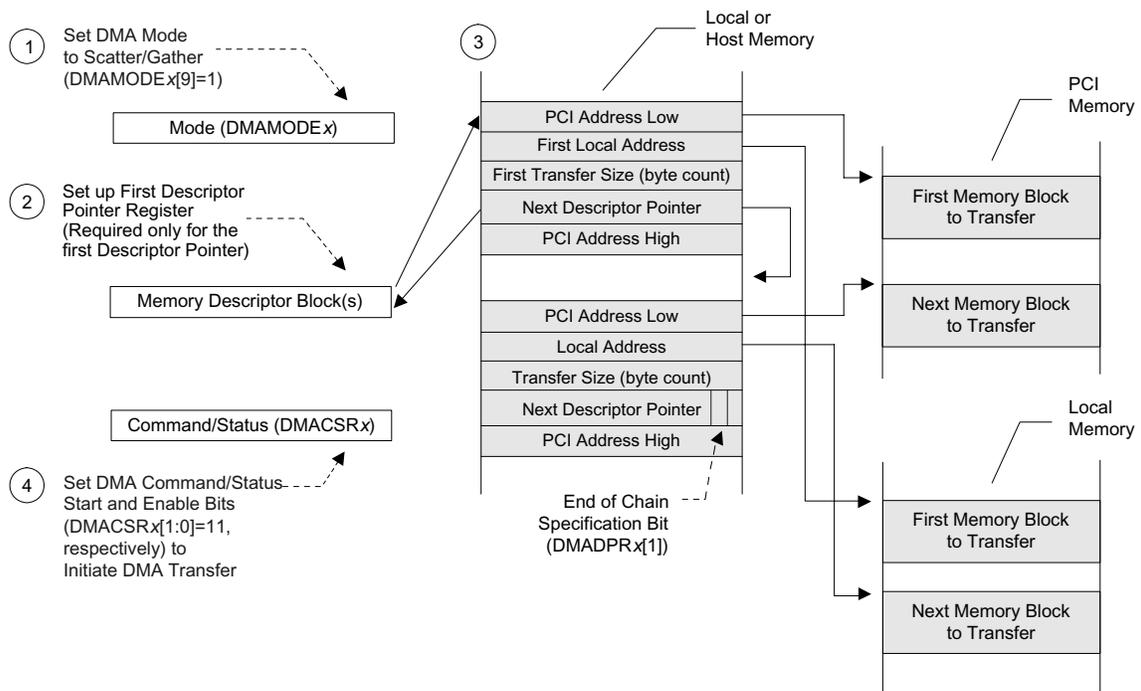

Figure 3-18. DMA Scatter/Gather Mode Descriptor Initialization [DAC PCI Address (DMAMODEx[18]) Descriptor Dependent (PCI Address High Added)]
- DMADACx contain(s) a value of 0h. DMAMODEx[18] is set to 1. The PCI 9656 performs a SAC 5-Lword descriptor block load from PCI memory and DMA transfer with DAC on the PCI Bus. (Refer to Figure 3-18.) The DMA descriptor block starting addresses should be 32-byte-aligned.
- DMADACx contain(s) a non-zero value. DMAMODEx[18] is set to 1. The PCI 9656 performs a SAC 5-Lword descriptor block load from PCI memory and DMA transfer with DAC on the PCI Bus. The fifth descriptor overwrites the value of the DMADACx register(s). (Refer to Figure 3-18.) The DMA descriptor block starting addresses should be 32-byte-aligned.